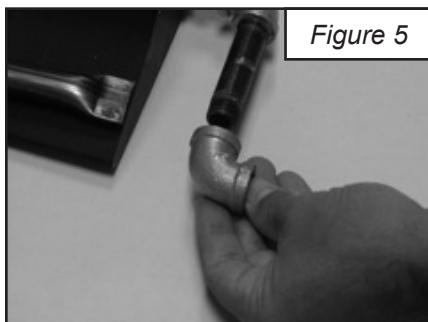

Figure 5
- E. Connect the second 3/8" female elbow (Part # 19) to the 3" Pipe Nipple. (See Figure 5)